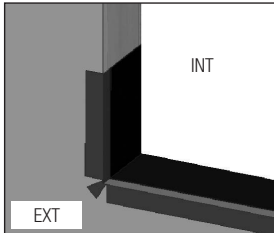

FIG. 6
- F) Flashing must cover the entire sill. If needed, apply an additional flashing piece over the first one (start from the exterior and work toward the interior). Maintain a minimum 1" overlap. (Fig. 6)